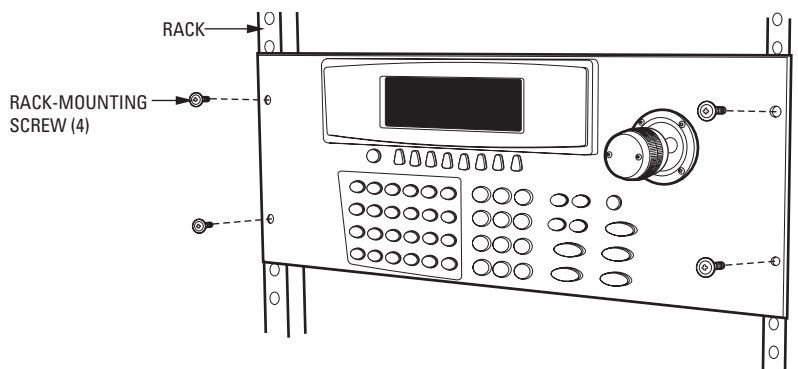

Figure 5. Front of CM9760-KBR
4. Remove the KBR from the rack by unscrewing the two Phillips rack-mounting screws from each rack ear on the front of the KBR (refer to Figure 5).